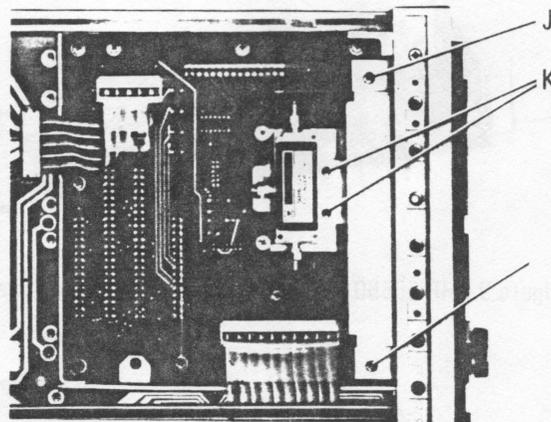

Figure 6. HP 85660A/B RF Attenuator Mounting Screws
9. Remove two screws (J), Figure 6, used to attach Attenuator Bracket to A6A13 RF Module Motherboard Assembly.
10. Remove two screws (K), Figure 6, used to attach Attenuator Bracket to A6 RF Module "Totem Pole" Assembly.
13. Replace two screws (K), Figure 6, used to attach Attenuator Bracket to A6 RF Module "Totem Pole" Assembly.
14. Replace two screws (J), Figure 6, used to attach Attenuator Bracket to A6A13 RF Module Motherboard Assembly.